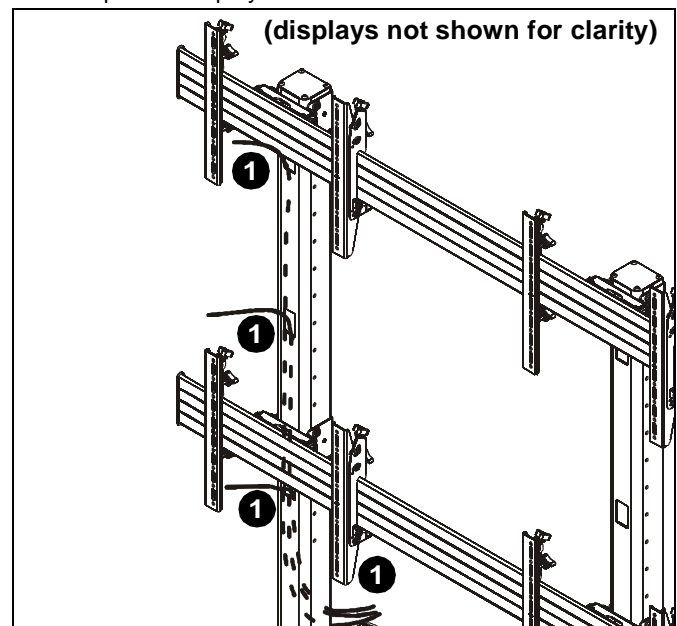

Figure 17
1. Route cables from displays through nearest holes on front of columns and out through back cable management hole. (See Figure 17)